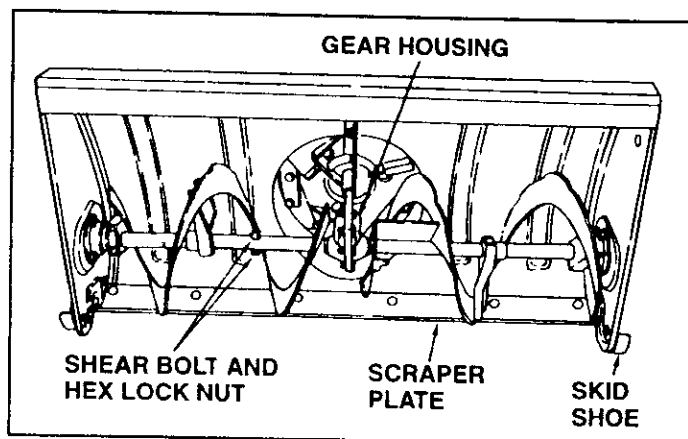

FIGURE 37
- If the augers will not turn, check to see if the shear bolts have sheared. See figure 37. Two replacement shear bolts and hex lock nuts have been provided with the snow thrower. For future use order part number 710-0890A shear bolt and number 43064 hex lock nut.